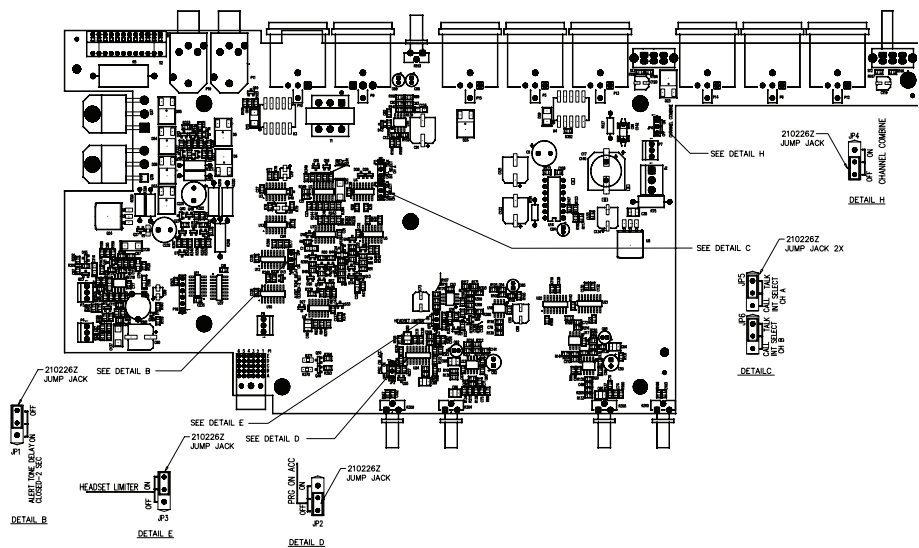

Figure 2-3: MS-702 Jumpers
- In the MS-702 station the jumper is located towards the front of the main PCB as shown in Figure 2-3.